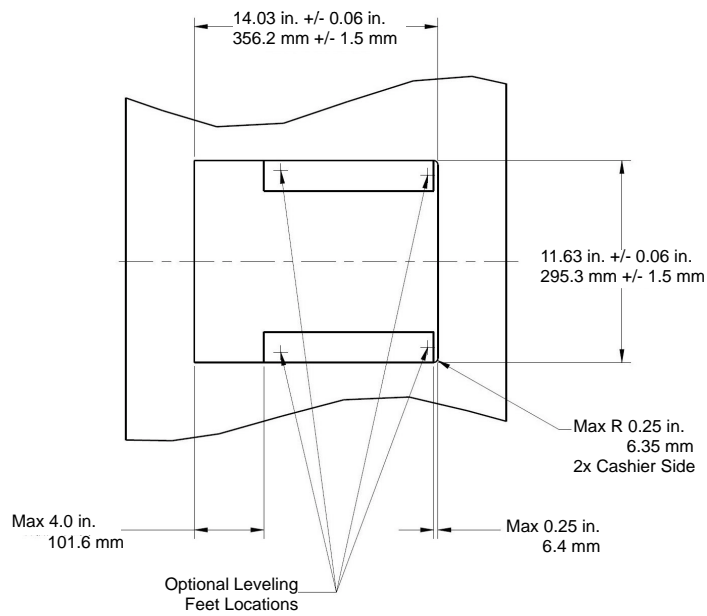
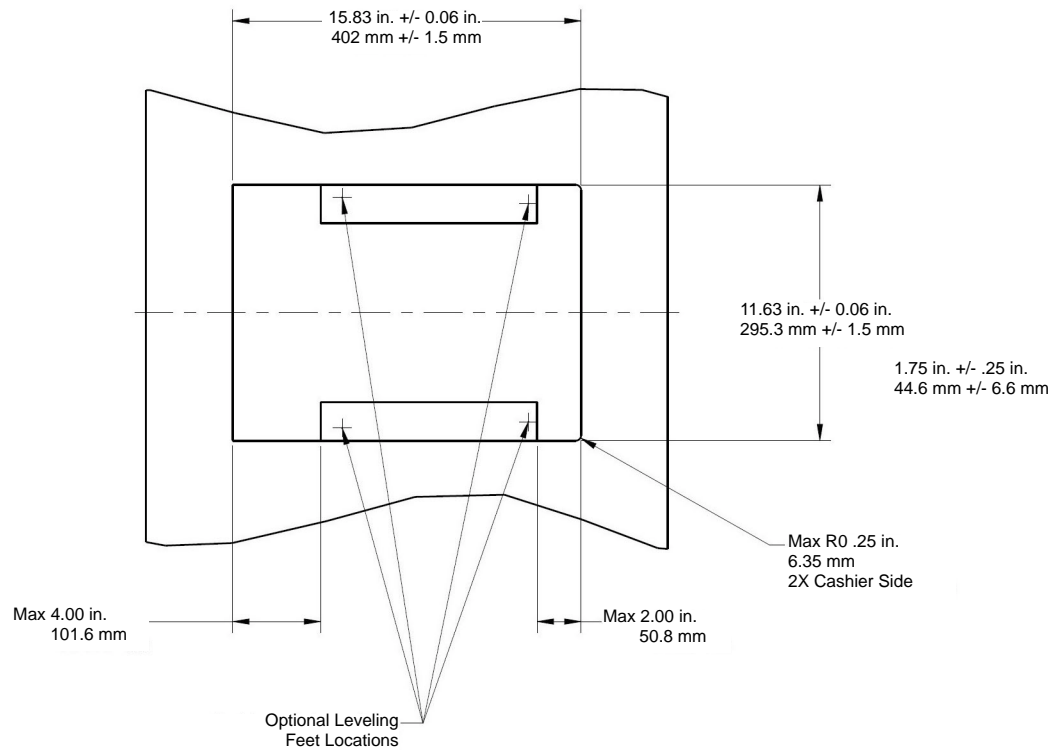
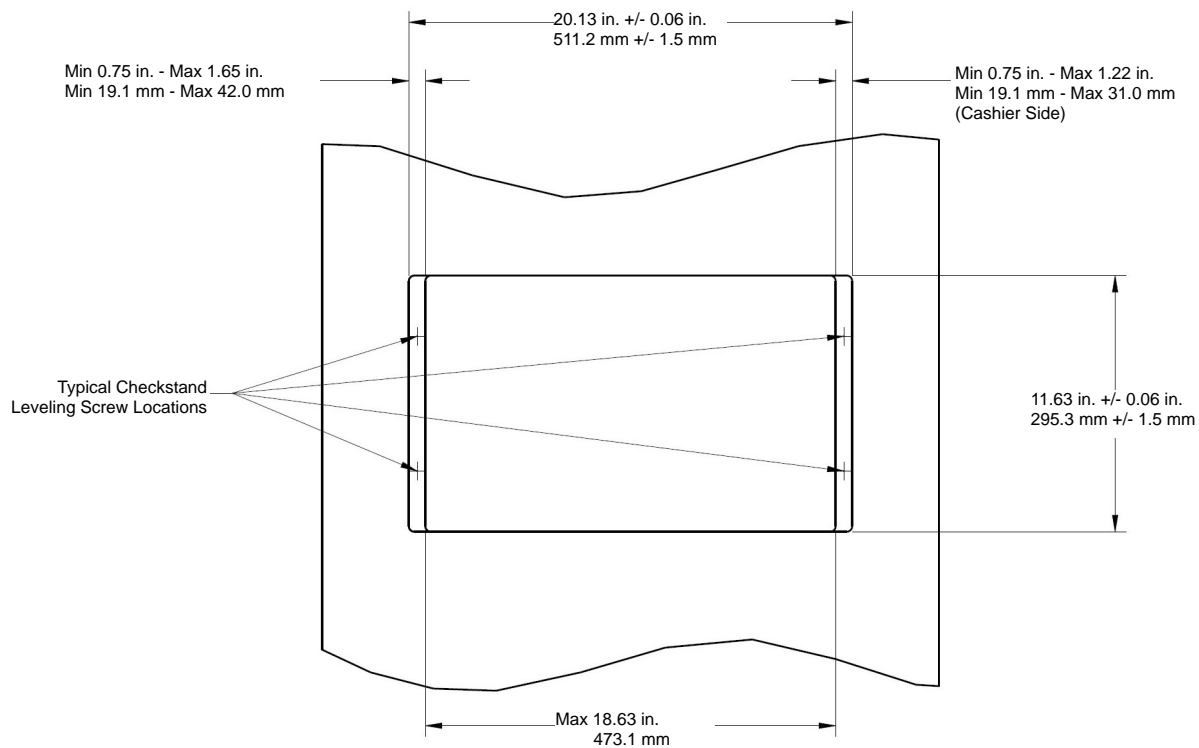

Figure 3-29 MP6000 - Short Unit (No Scale) Counter Cutout
Figure 3-33 MP6000 - Medium Unit Counter Cutout
Figure 3-37 MP6000 - Long Unit Counter Cutout
2. Verify checkstand dimensions shown in Figure 3-29, Figure 3-33, and Figure 3-37, respectively.